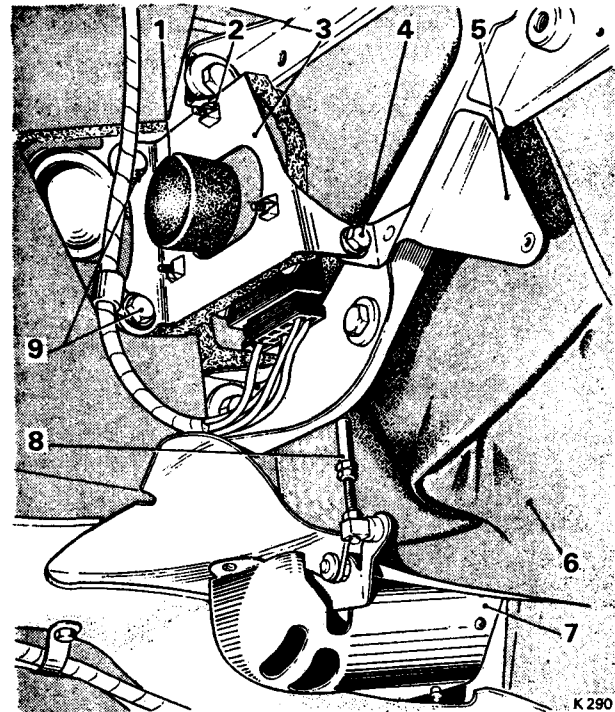

FIG. C8 POSITION OF LOWER QUANTITY FLAP ACTUATOR
(see Fig. C8)
7. Fit the mounting bracket together with the actuator into position (see Fig. C8).